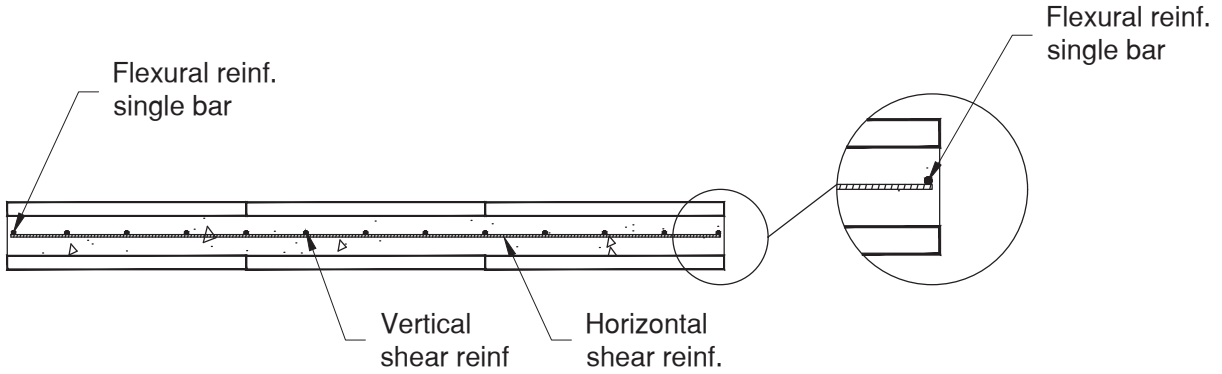

FIGURE 6: PLAN VIEW
1. Shear wall Figures 6 to 8 to be used in conjunction with Tables 6A and 6B.
1. Table 6A to be read in conjunction with Shear Wall Figures 6 to 8.